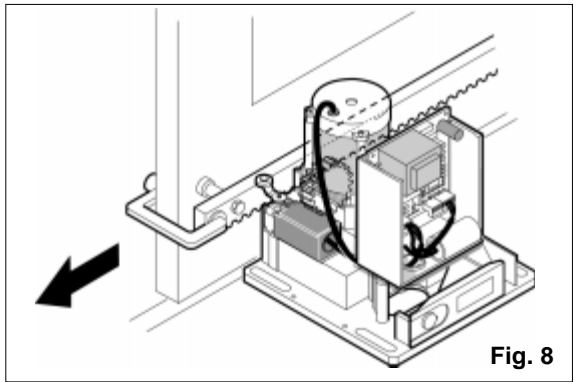

Fig. 8
- 4) Place the first section of the rack on the pinion, aligning the latter with the first spacer (fig. 8).
- 5) Fix the rack section to the leaf by means of a clamp (fig. 8).